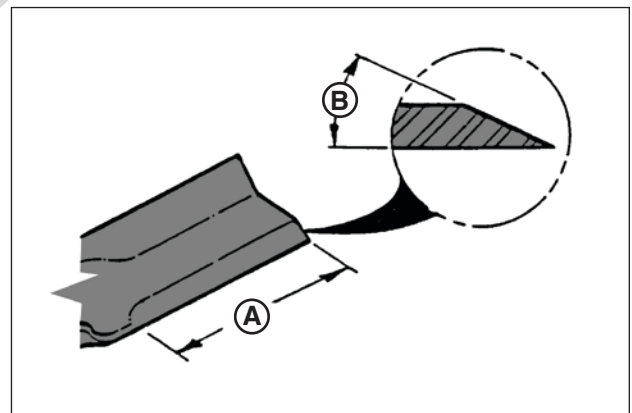

Figure 36: Sharpening the mower blade
4. If the blade is in good condition, sharpen at 22 to 28 degrees (B, Figure 36). DO NOT sharpen beyond existing cutting edge (A).